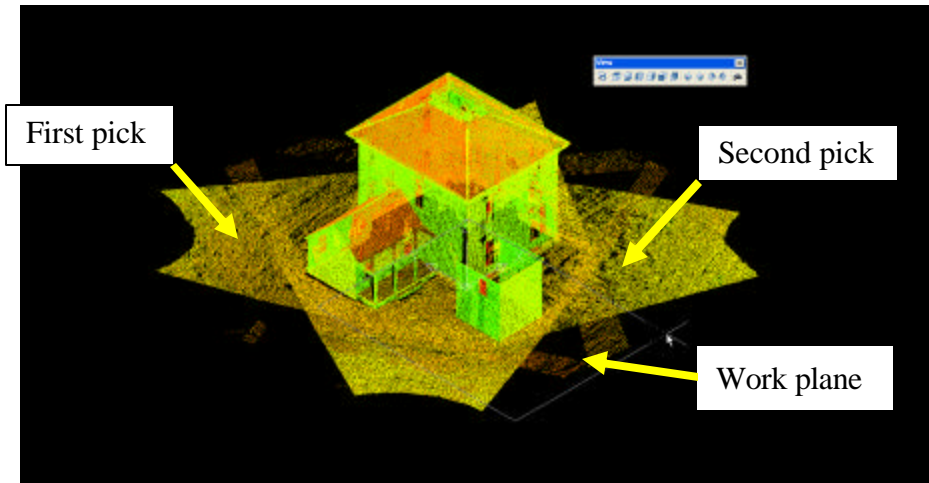

Figure 6.3.5
4. Position the crosshair at the point representing the opposite corner of the desired limit box and click (or enter coordinates for the second corner at the command line and press **ENTER**). The resulting rectangle is projected onto the work plane. See Figure 6.3.5 Below